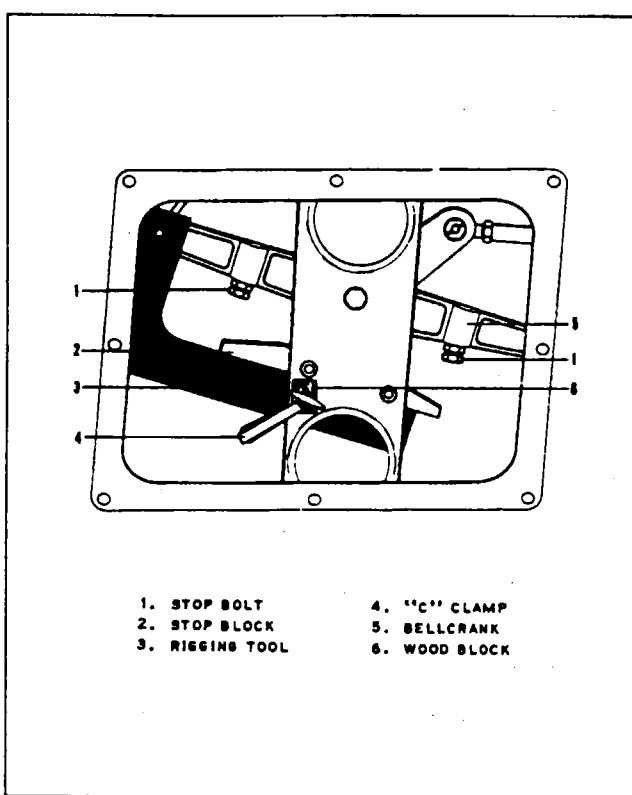

Figure 5-3. Installation of Bellcrank Rigging Tool
- a. To rig the aileron controls, set the right and left aileron bellcranks in neutral position by attaching an aligning tool within both wings as shown in Figure 5-3. (This tool may be fabricated from dimensions given in Figure 5-19.) The tool is used by the following procedure: